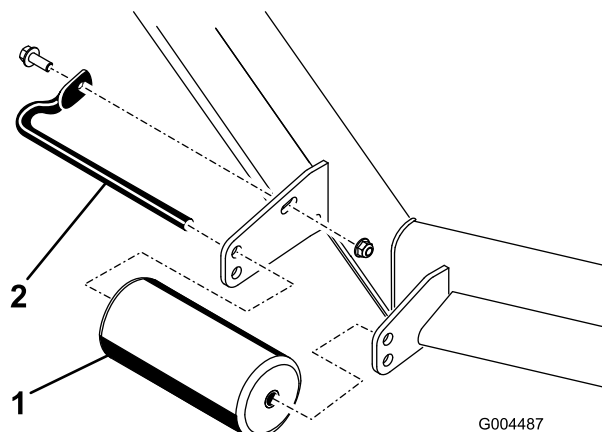
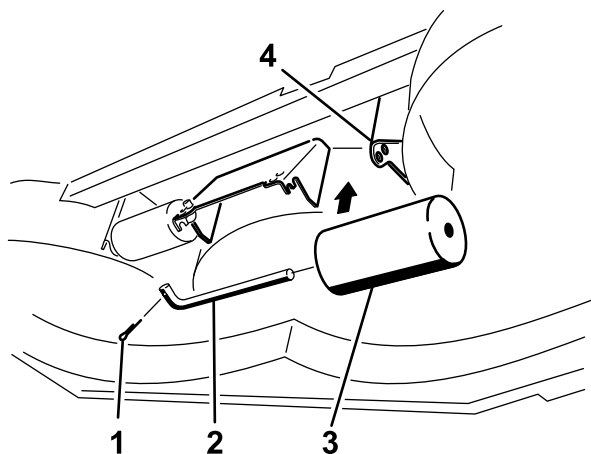

Figure 10
Figure 14
4. Remove the fasteners securing each roller on your mower and move the rollers up or down as desired; refer to Figure 10 through Figure 14 as applicable for your mower.